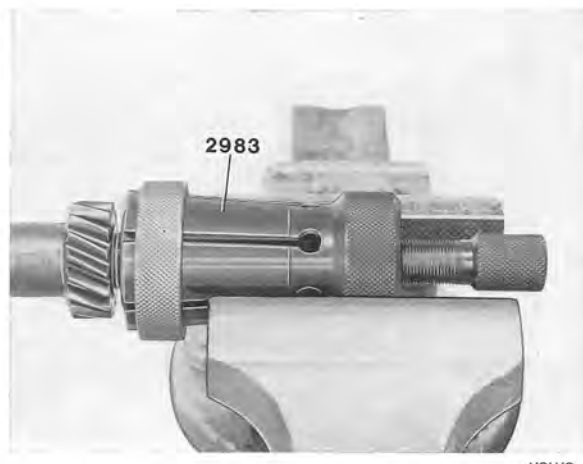

Fig. 4-22. Removing rear inner ring
10. Hoist the intermediate shaft. Drive out the outer ring for the intermediate shaft front bearing with drift 2413. Pull off the inner rings for the intermediate shaft bearing with puller 2983 (rear bearing, see Fig. 4-22) and 2988 (front bearing).